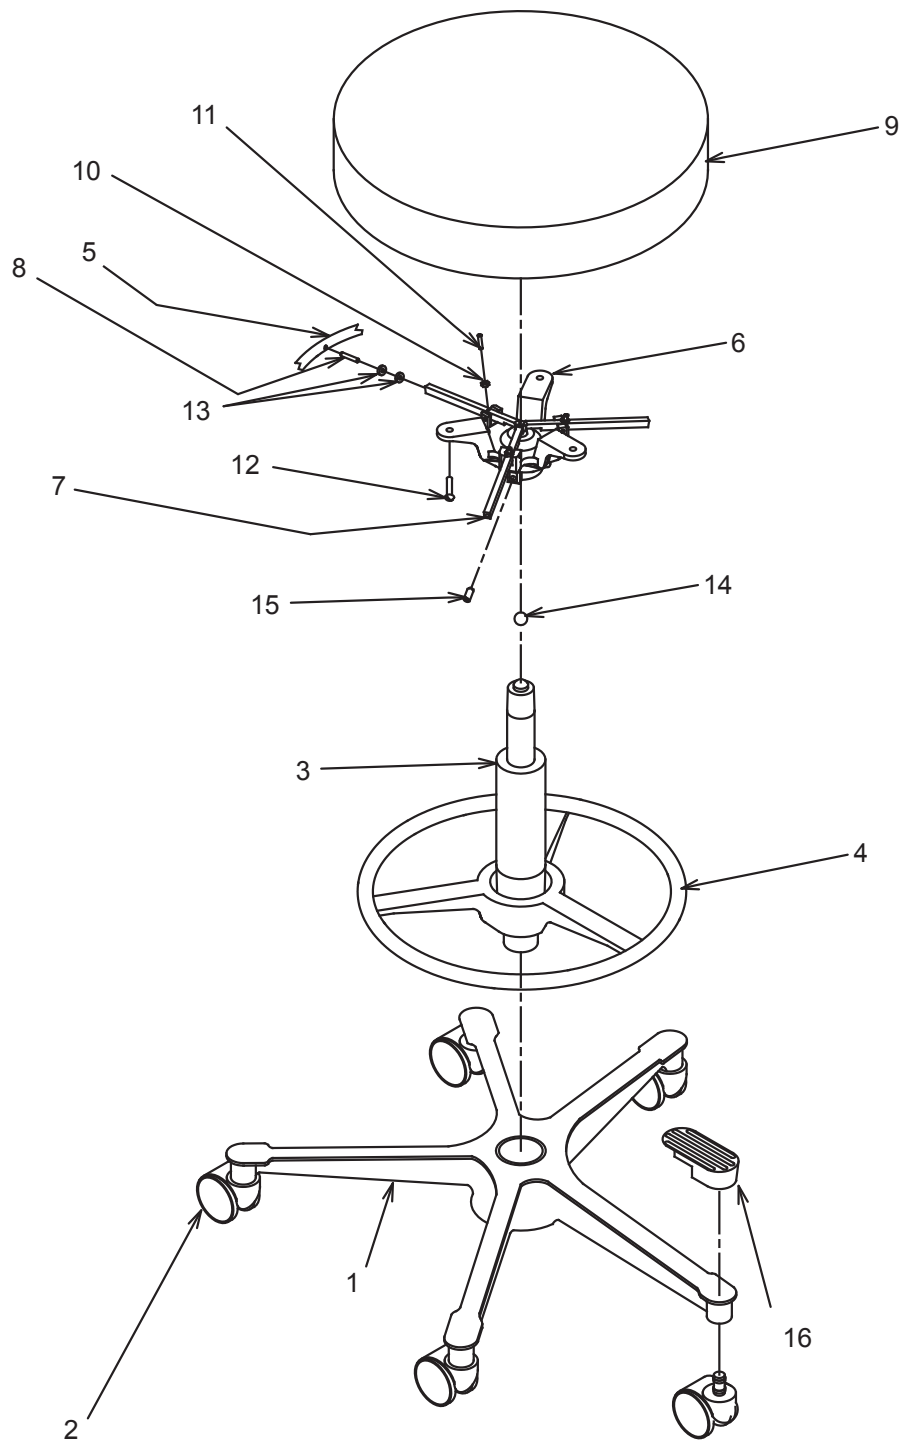

FIGURE 5
2.2.1.2. In order to position the backrest properly, refer to Figure 5 or 6. The threaded stud is to be placed thru the slot in the support bar with the chrome acorn nut (Item 7) visible from the top.
4.1.1. For upholstered items on all models, refer to Figures 5 through 8. Order by part number and state color of upholstery (or conductive). For Model 5356, state L.H. or R.H. curved body support.